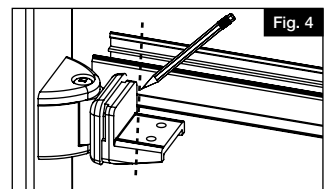

Fig. 4
- b. Align panel on desired angle and mark the top rails (Fig. 4) and bottom rails (Fig. 5).
- b. For the top rail, cut the panel directly on the marks made in Step 3 (Fig. 4).